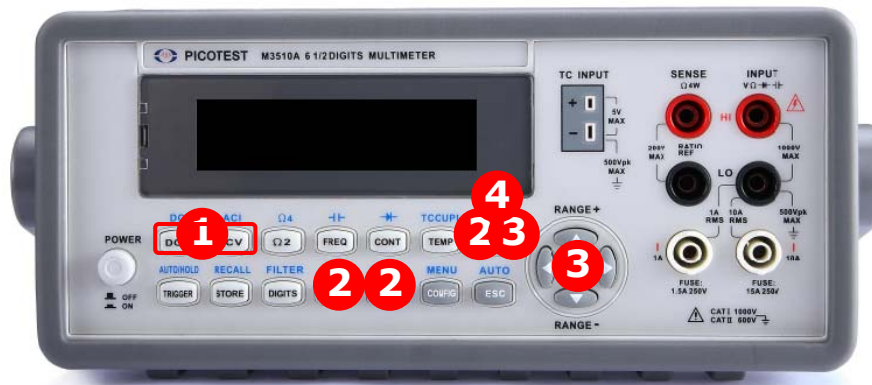

Figure 4-26
2. Do the procedure SHIFT + NULL > dBm > ENTER > REF RES to access the setting as shown in **Figure 4-26**.